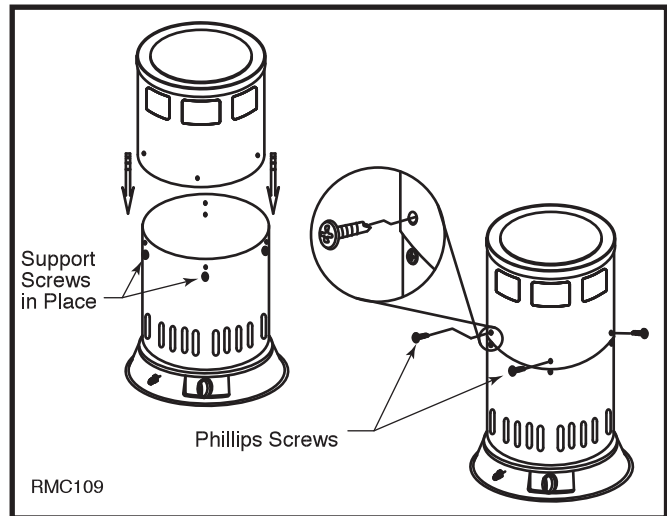

**Fig. 2** Slide upper shell assembly up and off lower shell.
3. Slide upper shell assembly up and off lower shell. LPC80/200 (Fig. 2)